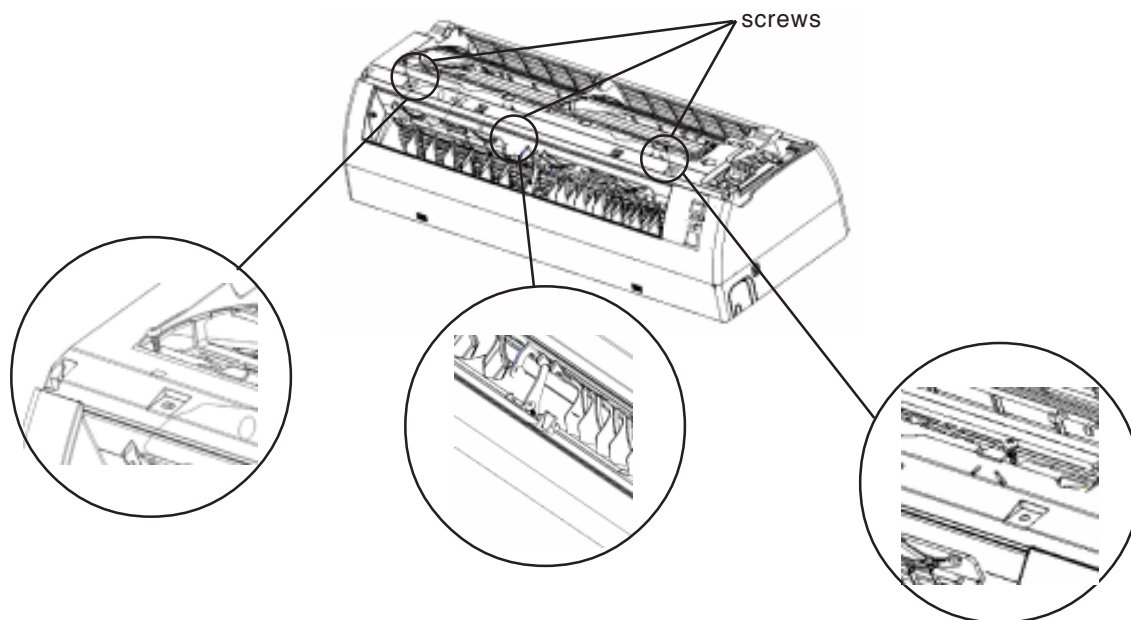

Fig. 10
- (1) Remove the 3 screws, in the right and the left, which fix the main body with the front grille. (Fig.10)